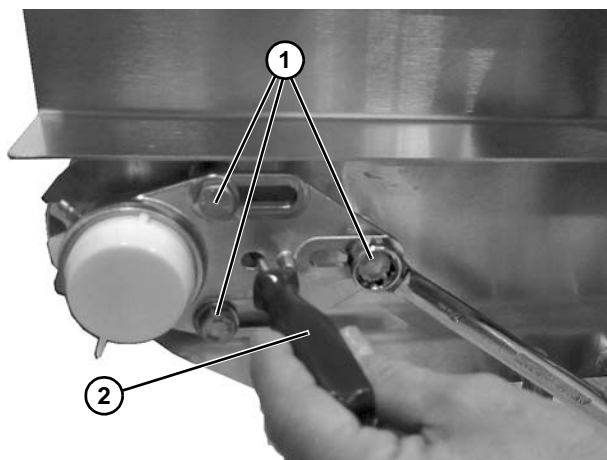

Figure 109
1. To adjust tracking, loosen three screws (Figure 109, item 1) on each side of conveyor.
2. Tension each end with a bar (Figure 109, item 2), as needed for tracking. While applying tension, tighten three screws (Figure 109, item 1).